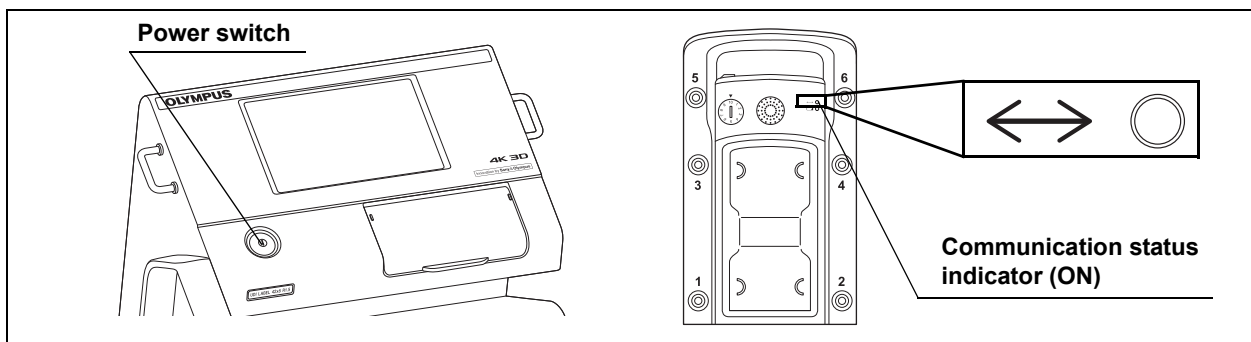

Figure 3.16
- 5 Turn off the surgical microscope by pressing the power switch. (See Figure 3.16)